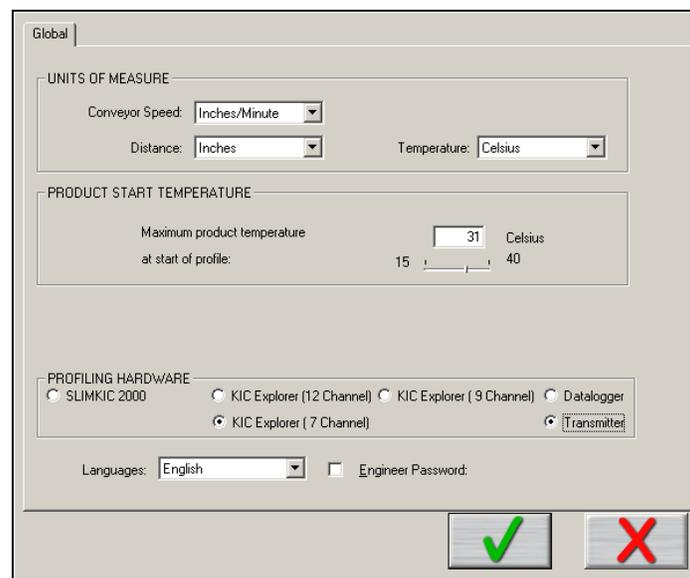

Figure 198: KIC 2000 Global Preferences
6. Select the “Global Preferences” button. In the Profiling Hardware section select *KIC Explorer 7, 9 or 12* channels depending on your model *KIC Explorer*, then select *Transmitter*. When finished select the Green check mark button. See Figure 198.